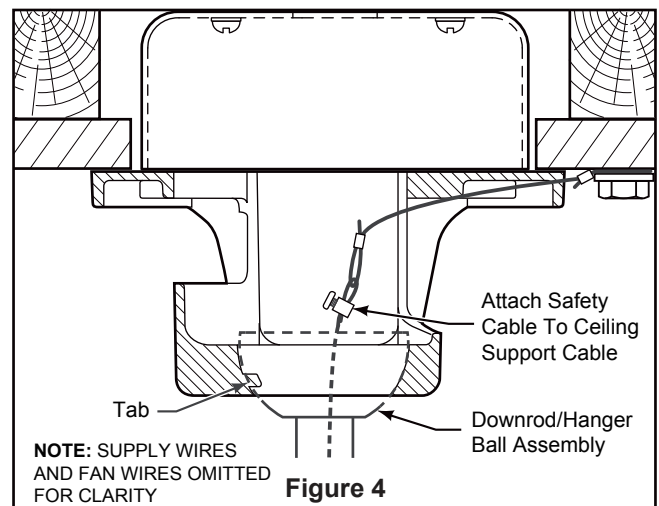

Figure 4
4. Slide downrod into the downrod support on top of the motor. Install the clevis pin by aligning the holes in the downrod support with holes in the downrod. Secure clevis pin with hairpin clip. Install and tighten the two set screws with nuts in the downrod support. (Figure 4)
4. Carefully lift the fan and seat the downrod/hanger ball assembly onto the hanger bracket that was just attached to the outlet box. Be sure the groove in the ball is lined up with tab on the hanger bracket. (Figure 4)
5. Attach the safety cable to ceiling support cable. Slide cable clamp and washer onto safety cable (from fan). Place the end of cable through the loop of ceiling support cable. Pull as much cable through loop as possible. Feed end of cable into clamp hole and firmly tighten screw. (Figure 4)
3. Connect wires using connectors as shown in Figure 4.
- 4. To make fan operational, install two 3V batteries (included) in hand-held remote transmitter, with fan power off. Then, follow the remote code setting process. If not used for long periods of time, remove battery to prevent damage to transmitter. Store the remote away from excessive heat or humidity. (Figure 4)